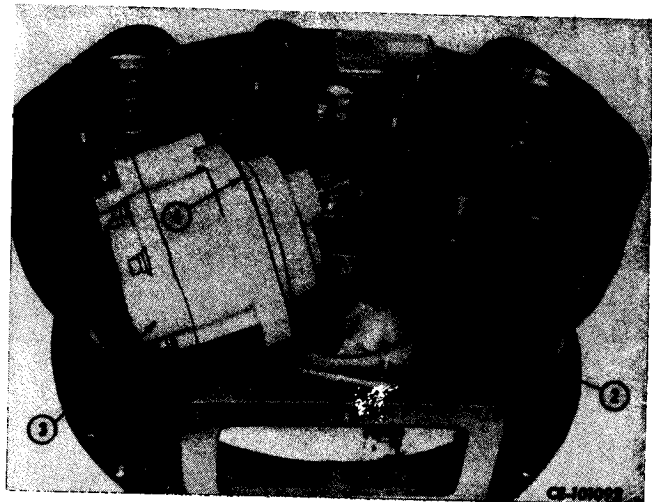

Figure 3-29
Remove cap screws (1, Fig. 3-29) that retain pump (3) to converter housing (2). Remove pump. Discard "O" ring (4).
Install a new "O" ring (4, Fig. 3-29) on input pump (3). Install pump in housing (2) and retain with cap screws and lock washers (1). Tighten cap screws to recommended torque (refer to "SPECIAL TORQUES").